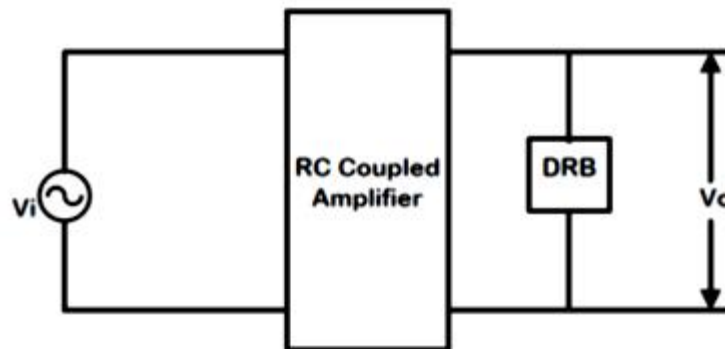

Fig. 3.5. Measurement of output resistance
1. Keep the DRB at maximum position and connect it in parallel with the output as shown in Fig. 3.5.